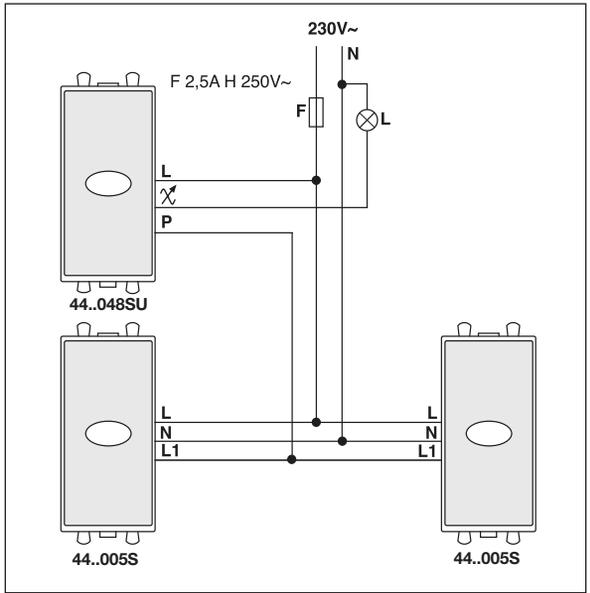

Figure 3
- 44..005S with touch dimmer switch 44..048SU (figure 3);